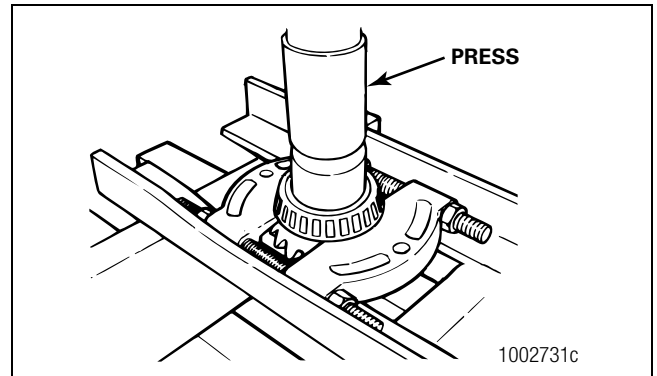

Figure 3.26
11. Use a press, sleeve and bearing puller to remove the cone from the rear side gear. Figure 3.26.